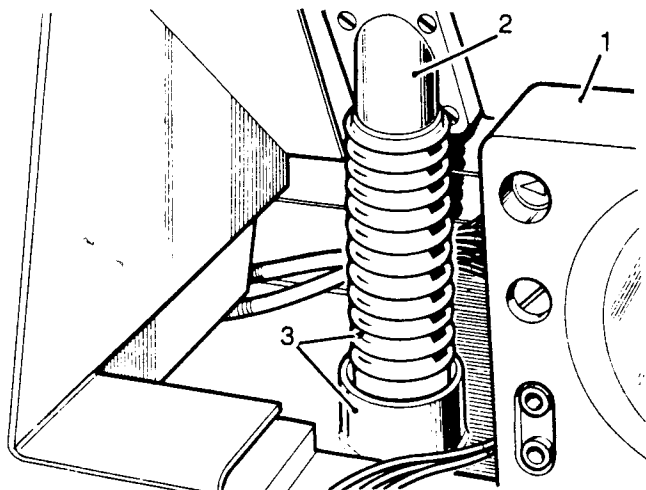

Fig N3.9
- (1) Refer to Fig N3.9. Withdraw the instrument panel (1) sufficiently to gain access to the hose (see Sub-section O5, Chapter 27).
- (2) Pull the upper end of the hose downwards off the nozzle adaptor (2).
- (3) Withdraw the hose from the rubber connector (3).